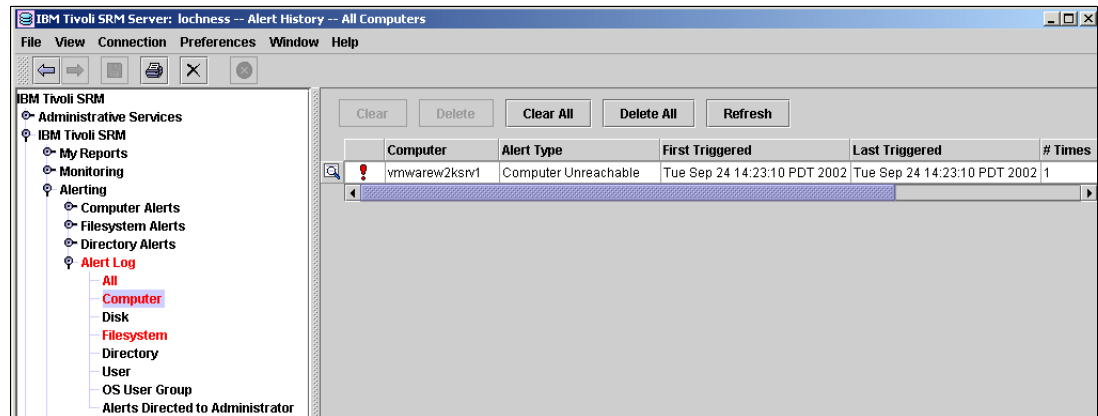

Figure 16-9 Alert Log and details
- ▶ Send an SNMP trap (Figure 16-9)
Figure 16-9 shows the Alert Log. The entries *Alert Log*, *All*, *Computer*, and *File system* are in red, signifying that an Alert threshold has been reached. Drilling down on *Computer*, you can see the details of the Alert. We can see it was caused by the system VMWARE2KSRV1 being *unreachable*.